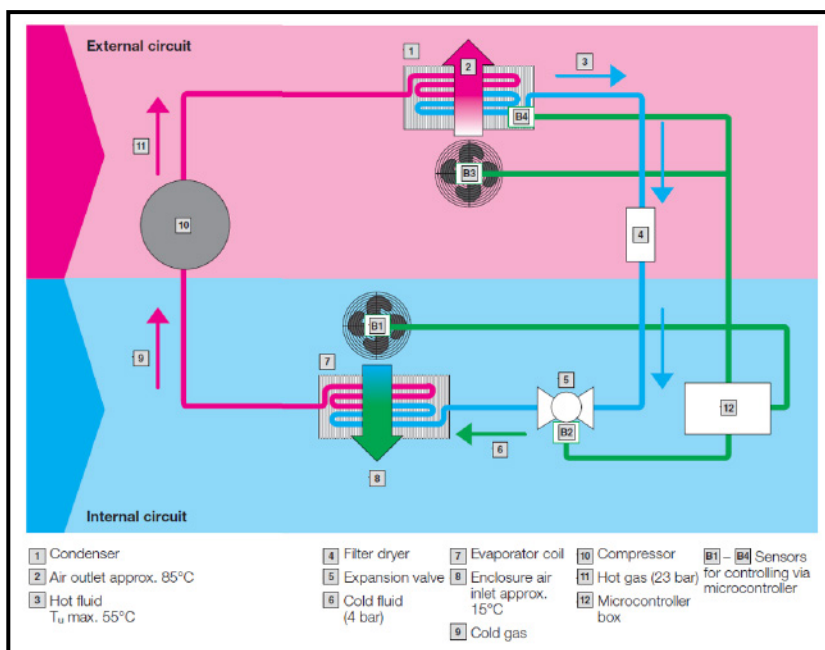

Fig. 1 Cooling circuit
The cooling unit (compressor refrigerating machine) comprises four main components (see Fig. 1): The evaporator (7), compressor (10), condenser (1) and the control valve or expansion valve (5), which are all connected by piping. This circuit is filled by a substance with a low boiling point, the coolant.